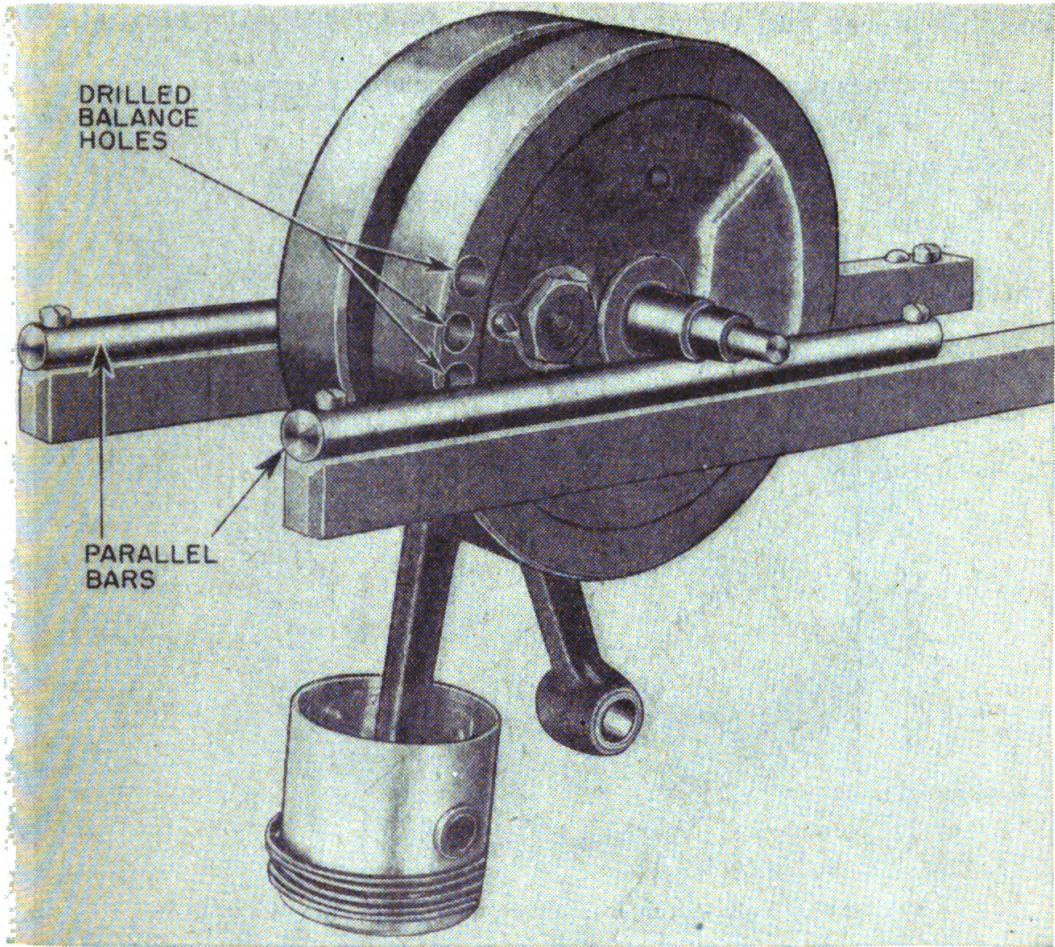

FIGURE 62.—Set-up for flywheel balancing.
*b. Balancing.*—Flywheels are balanced at the factory according to the service intended for the motorcycle. However, if the flywheel balance has been changed by a replacement of pistons, rods, or other parts, it may be checked by the method shown in figure 62. Use both connecting rods and bearings on the crankpin, as well as one piston